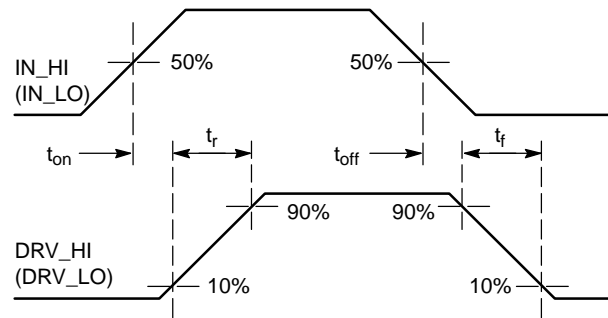
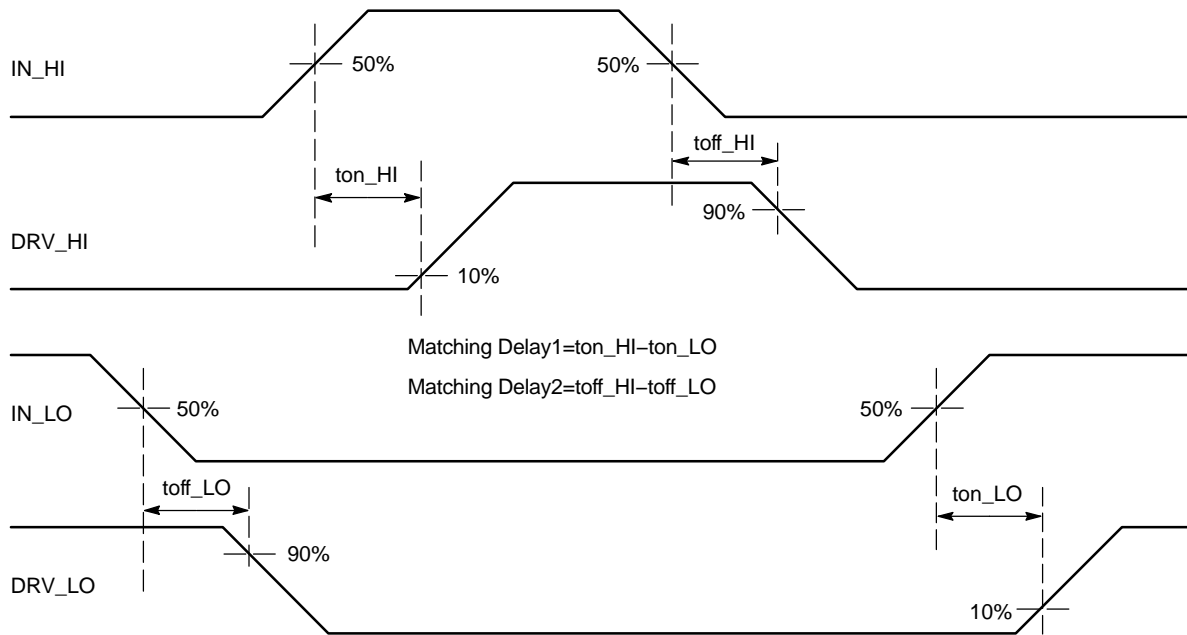

Figure 5. Propagation Delay and Rise / Fall Time Definition
Figure 6. Matching Propagation Delay
5. Timing diagram definition see Figure 5 and Figure 6.